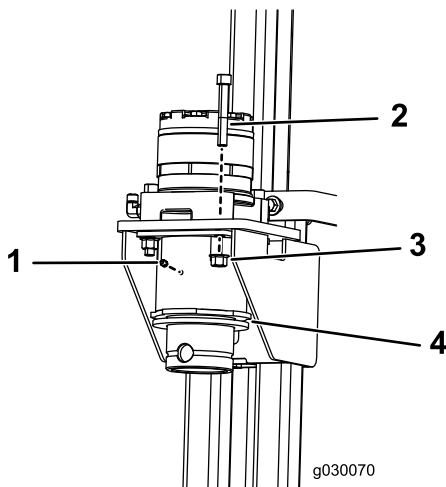

Figure 2
6. Remove the existing couplers and install the new couplers using 8 bolts (M12-1 3/4 x 80 mm), 8 locknuts (M12), and 2 grease fittings (Figure 2).